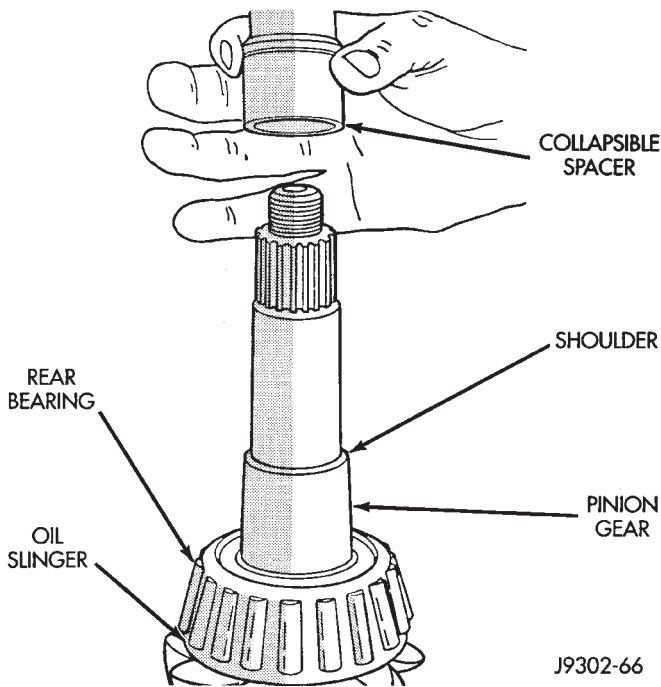

Fig. 45 Collapsible Preload Spacer
(7) Install a new collapsible preload spacer on pinion shaft and install pinion gear in housing (Fig. 45).
(8) Install pinion companion flange, with Installer W-162-B, Cup 8109, and Holder 6958.
(9) Install the pinion washer and a new nut on the pinion gear. Tighten the nut to 216 N-m (160 ft. lbs.) minimum. **Do not over-tighten.** Maximum torque is 352 N-m (260 ft. lbs.).